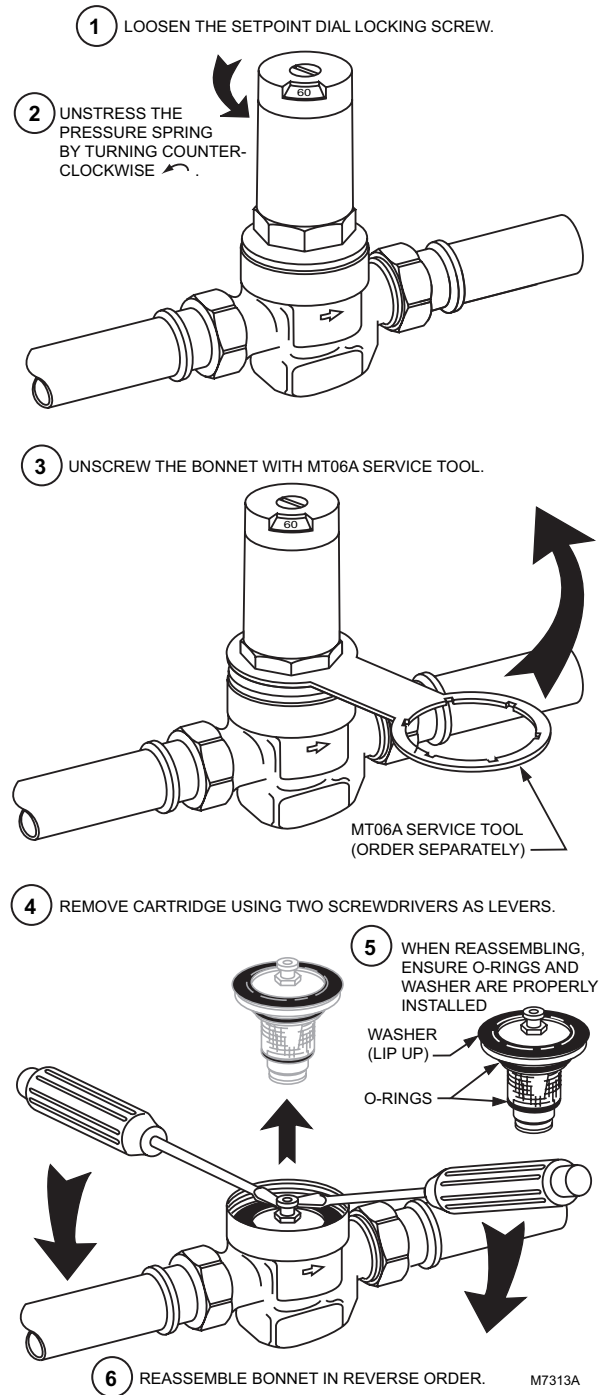

Fig. 3. Replacing the DS05 cartridge.
Replacing the Cartridge (See Fig. 3)
4. Remove the cartridge using two screwdrivers as levers as shown in Figure 3.
Chatters.	<ul style="list-style-type: none"> Replace screen and O-rings. Replace the cartridge as shown in Figure 3.